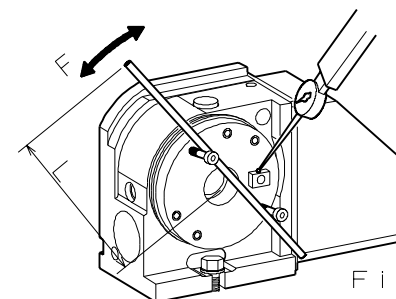

Fig. 2
### 8-1 Measuring the Backlash of the Worm Gear (See Fig.2.)
- 2) Turn the table slowly by using the tap on the surface of the table as shown in fig.2. And read the value of the dial gauge when tooth of the worm wheel makes contact with a worm shaft. At this time, the rotating torque added to the table is as follows. Then, rotate the table on the same conditions to the opposite direction. The difference of these measurements is the amount of backlash.